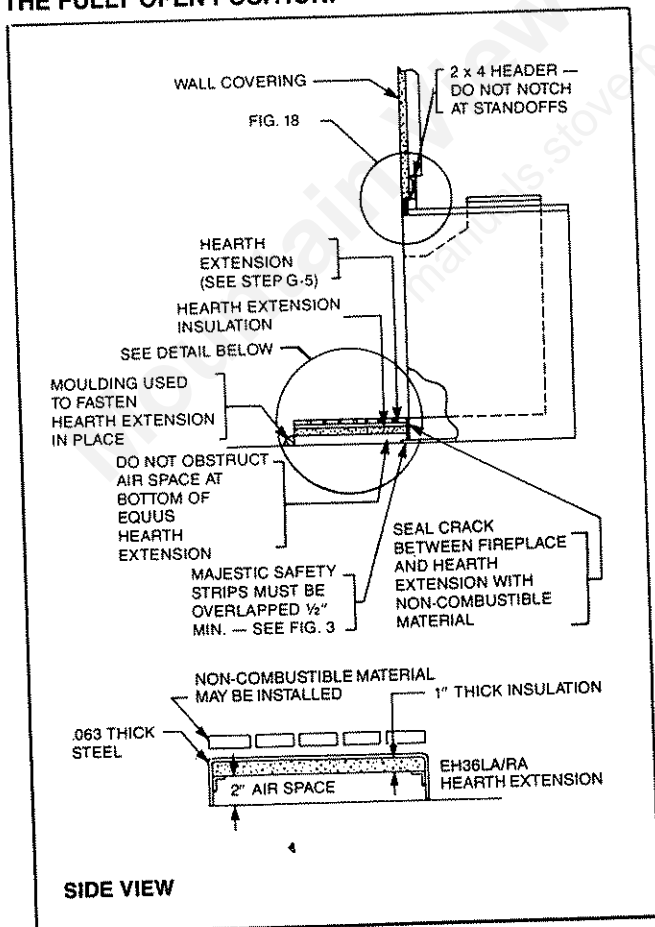

Fig. 23. Sealing detail.
The header may rest on the fireplace standoffs and be used to anchor the fireplace. Nail through the flanges into the horizontal framing members. (See Fig. 4.) Framing should be positioned to accommodate wall covering and fireplace facing material. (See Figs. 23 and 24 for typical arrangements.)
Secure the hearth extension to the floor to prevent shifting, using trim molding or other similar means at the three (3) outer edges. Seal the crack between the fireplace hearth and the hearth extension with a non-combustible material. (See Figs. 23 and 24.)